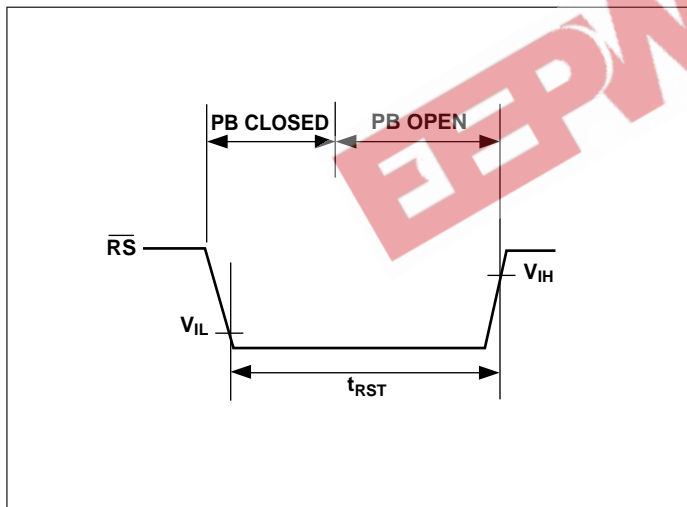

Figure 2. \overline{RS} Pulled Low by Push-button Reset
A built-in debounce circuit allows a push-button switch (PB) or other electronic signal to be wire-ORed to this pin as an external \overline{RESET} override control. The external \overline{RESET} is required to be an active low signal. Internally, this input is timed to provide a minimum \overline{RESET} pulse width of 500msec. Reference Figure 2.